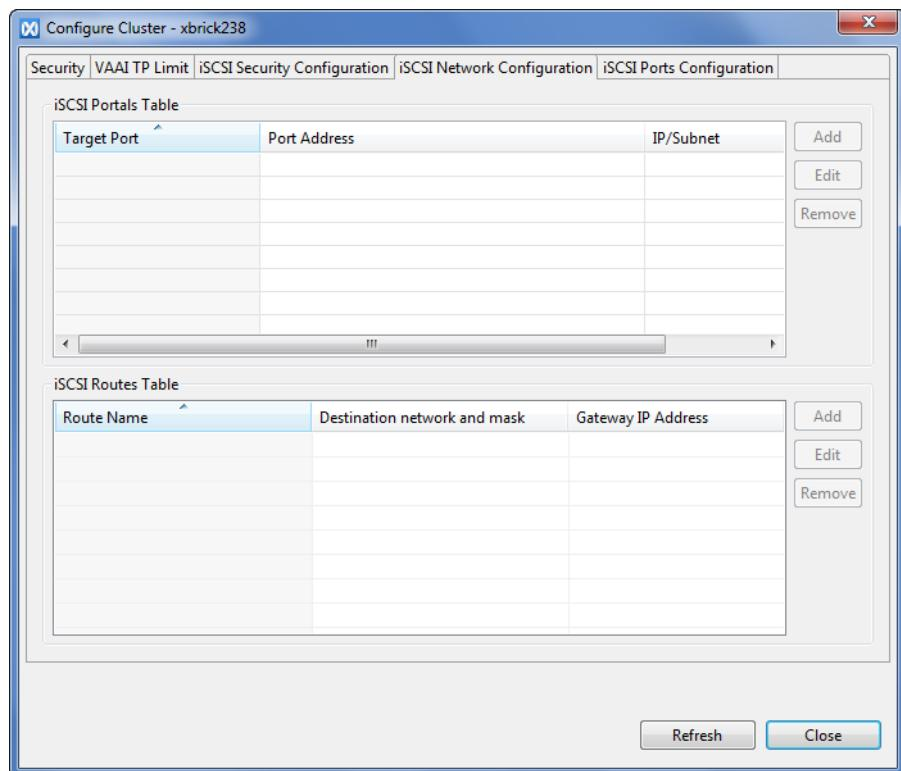

Figure 211 Configure Cluster - iSCSI Network Configuration Tab
5. In the Configure Cluster Dialog box, click the **iSCSI Network Configuration** tab. The iSCSI Network Configuration screen appears, as shown in Figure 211.
5. In the Configure Cluster dialog box, click the **iSCSI Network Configuration** tab. The iSCSI Network Configuration screen appears, as shown in Figure 211.